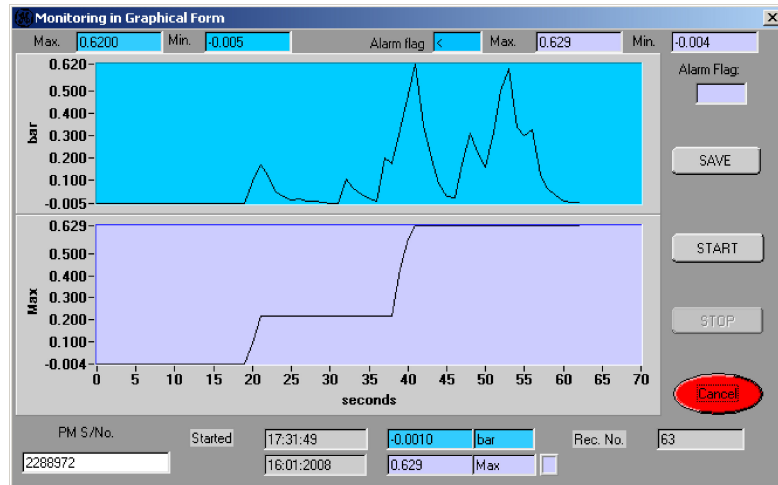

Figure 5-2: Example display - Graphical Mode
- *Monitor (Graphical)* mode shows the instrument output in a two-graph window format (See Figure 5-2).